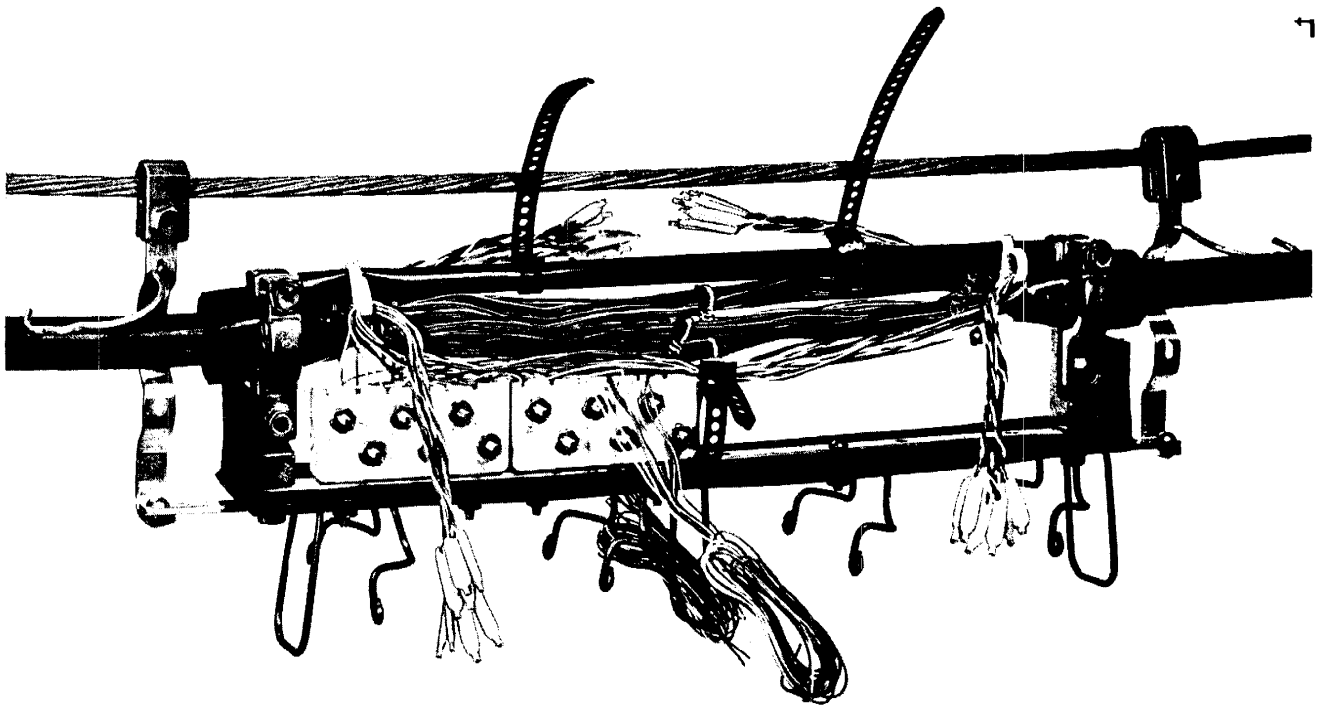

Fig. 9 — Eight Cable Pairs Terminated
5.06 Fig. 9 illustrates *eight* cable pairs terminated. Note the ease of gaining access to the unterminated cable pairs.